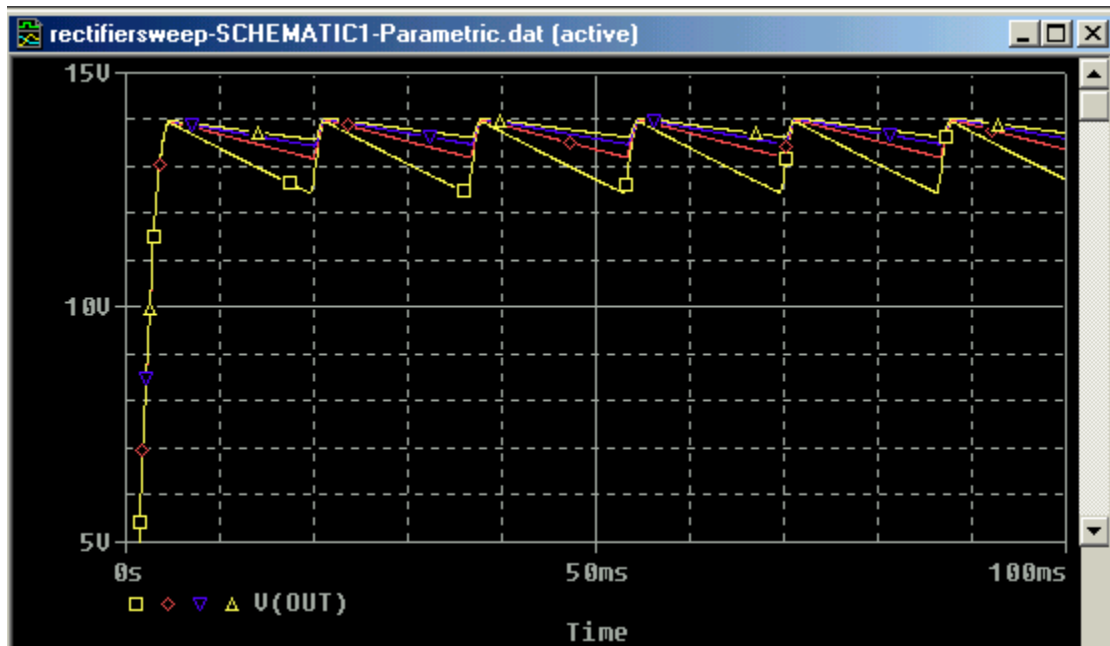

Figure 30. Results of the parametric sweep of the load resistor, varying from 250 to 1000 Ohm in steps of 250 Ohm.
- c. The multiple traces will show, as given in Figure 30.